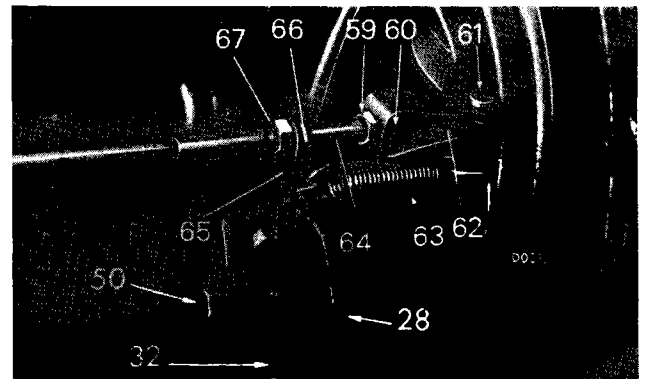

Fig. 42. Handbrake connections
2. Disconnect the handbrake cable (64) from the backplate lever by withdrawing the clevis pin (61). Disconnect the spring (63), Fig. 42.
2. Refit the three studs (42) with the shorter threaded portion leading, into the axle casing. Refit the spring clamp plate (3) and tighten the nyloc nuts (4).
4. Attach the vertical links (10) to the spring eyes using bolts (46), washers (12) and nyloc nut (11). Do not tighten the nut (11) at this stage.
5. Jack up the vertical links (10), fit the dampers and reconnect the axle shaft couplings.
6. Connect the handbrake cable to the backplate lever, refit the pull-off spring (63), Fig. 42, and reconnect the flexible brake hose. Adjust and bleed the brakes.
7. Place a trolley jack under the differential casing, remove the chassis stands and, with the vertical links supported at their running height, load the car and lower its rear end until the axle shafts assume their static laden operating position. This is to allow the rubber bushes to assume their correct working position before tightening the nuts (11), (8) and (13).
- the brake hose (57) from its steel pipe and chassis bracket;
- the handbrake cable (64) from the back-plate lever, and return spring (63) Fig. 42;